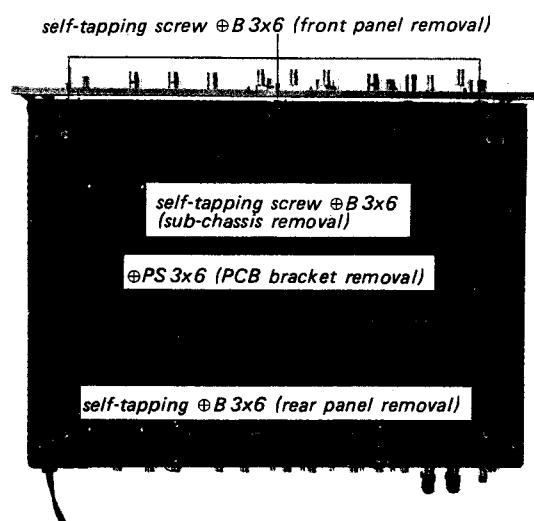
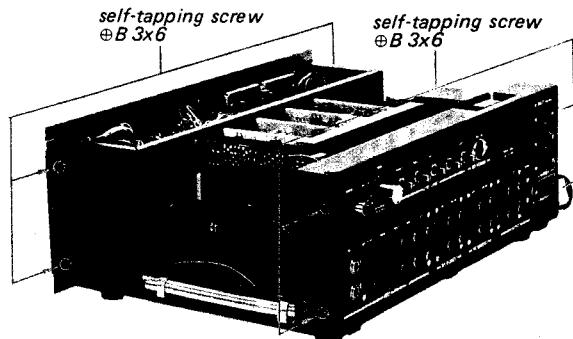

Fig. 2-4. Bottom view
Fig. 2-5. Front subchassis and rear panel removal
5. Remove the three self-tapping screws ( $\oplus$  B 3x6) at the front bottom of the chassis as shown in Fig. 2-4. This frees the front panel.
2. Remove the two self-tapping screws (④B 3x6) at each side of the chassis (see Fig. 2-5) and two self-tapping screws (④B 3x6) at the front bottom of the chassis as shown in Fig. 2-4. This frees front subchassis.
2. Remove the two screws ( $\oplus$  PS 3x6) securing the PCB mounting bracket to the chassis from the bottom as shown in Fig. 2-4.
2. Remove the two self-tapping screws ( $\oplus$  B 3x6) at each side of the rear panel as shown in Fig. 2-5.
3. Remove the two self-tapping screws ( $\oplus$  B 3x6) at rear edge of the bottom as shown in Fig. 2-4. This frees the rear panel.